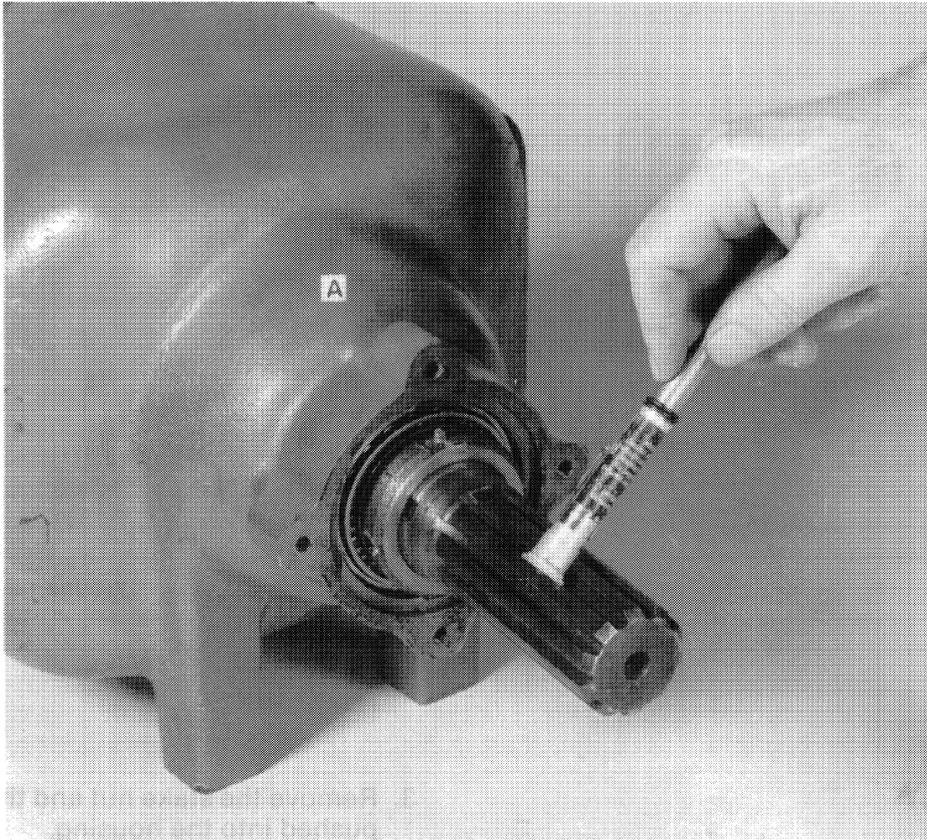

FIGURE 1-9
For example: If the slip of paper with the new bearing has a "6" on it, the housing may have "8" stamped on the case at A, Figure 1-9, and the gear may have a "4" etched on it. This means all three numbers must be added together, giving a total of 18. This total (.018) (.46 mm) indicates the required shim thickness that must be used at Q, Figure 1-7. Shims are available in sizes of .003", .005", and .007" (.08 mm, .13 mm, and .18 mm). After the shim thickness is determined, press the bearing cone on the output shaft until it seats against the gear. Install the proper shim pack at Q, Figure 1-7 and bearing cup, J.
3. Tighten the stake nut until the rolling torque of the shaft is 3-6 in. lbs. (1.1-2.2 N·m). See Figure 1-9 for one method of checking torque.